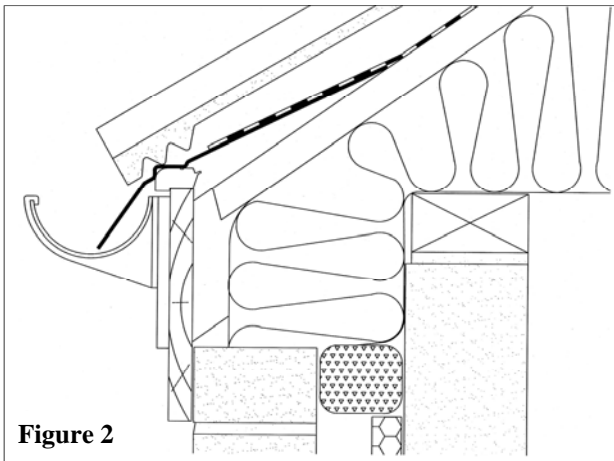
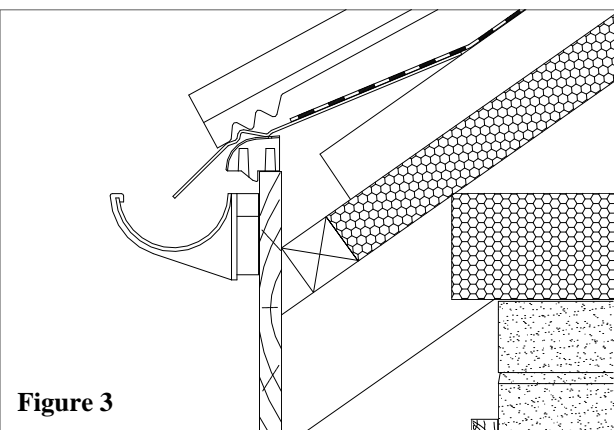

Figure 2
Figure 3
1. Position the eaves skirt on top of the fascia ventilators as shown in Figure 2 (for FV100) or Figure 3 (for FV250). Align back indent in skirt with the slots in the top of fascia ventilators.